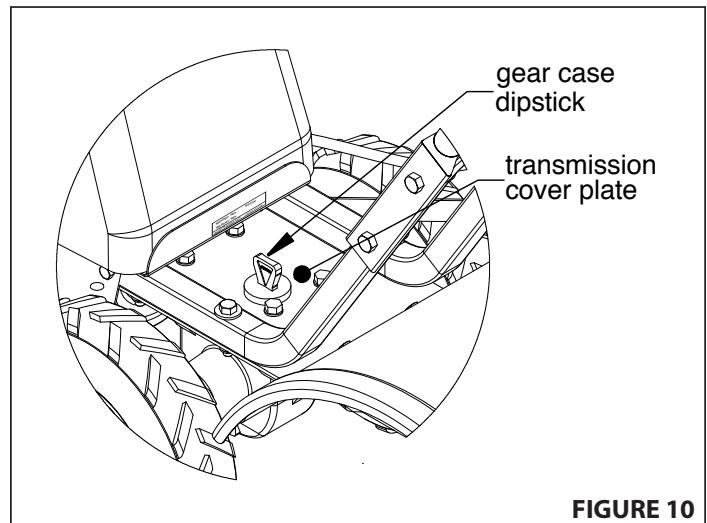

FIGURE 10
2. Remove gear case dipstick located between the handlebar mounts on the engine mount. Correct grease level is indicated between the high and low levels on the dipstick. **(SEE FIGURE 10)**